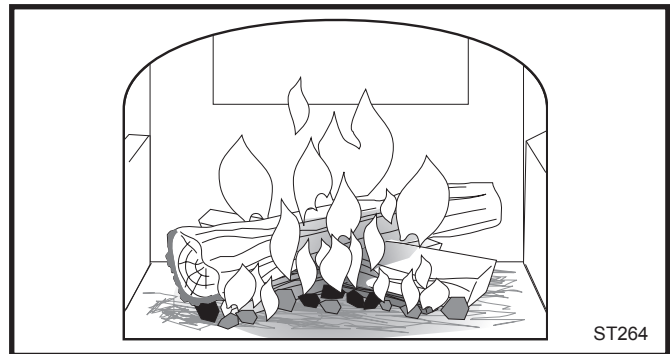

Fig. 24 Add larger pieces of wood as the fire begins to burn well.
4. After the stove has been broken-in, using steps 1-3, build the fire gradually. Add larger wood with a diameter of 76-102 mm (3"-4"). (Fig. 24) Continue adding split logs of this size to the briskly burning fire until there is a glowing ember bed of at least 76 mm (3") deep. A good ember bed is necessary to sustain the fire after the damper is closed.